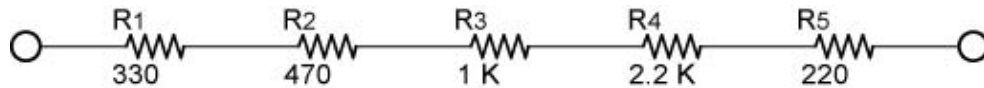

Figure 1
- Wire the series resistor network in Figure 1.